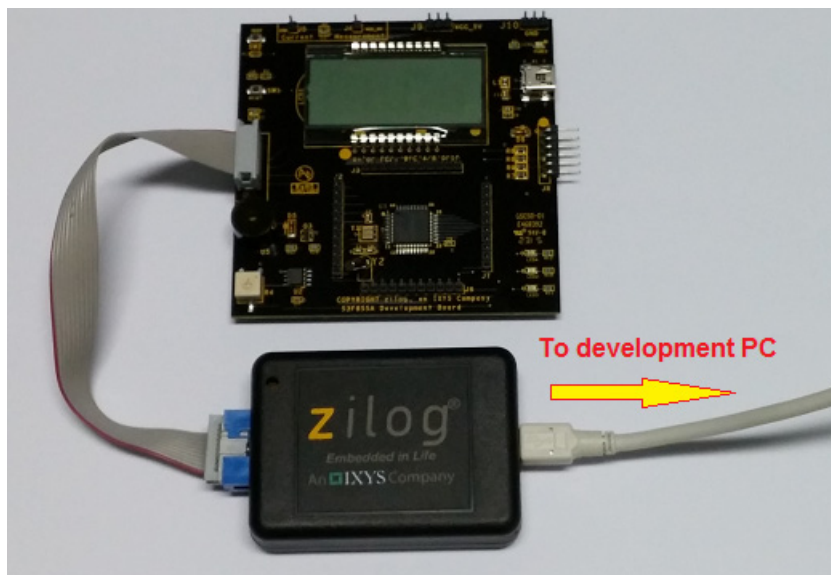

Figure 5. The Completed ISP II and Development Board Assembly
4. After completing the procedure to connect the S3F8S5A Development Board to the PC, the complete setup appears as shown in Figure 5.